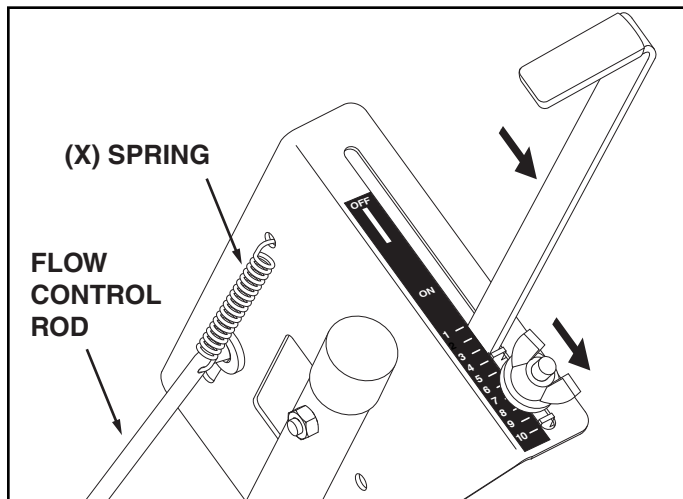

FIGURE 13
24. Slide the adjustable stop to the end of the slot. Move the flow control arm against the stop. Assemble the spring (X) to the flow control mounting bracket and then to the flow control rod. See figure 13.